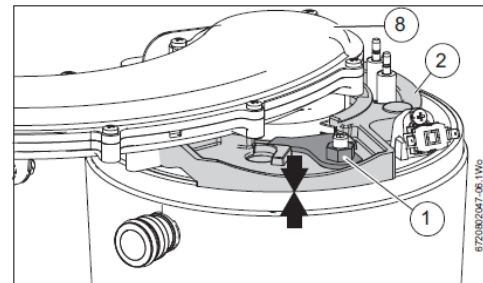

Fig. 105 Clamping plate secured
- ▶ Tighten the nut on the retaining plate assembly [1] until the underside face of the clamping plate mates with the top of the heat exchanger as indicated by the two arrows in figure 105
Particular attention must be paid to figure 105 and the instruction relating to this diagram. You must ensure that the mating surfaces come completely together.